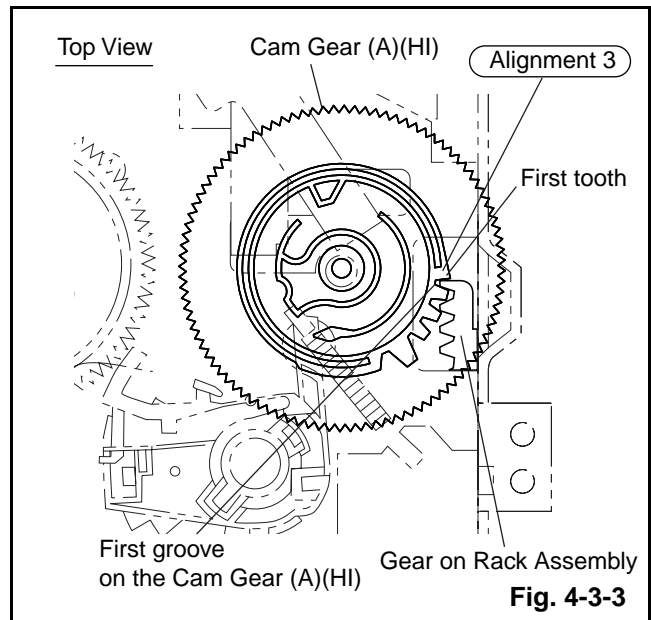

Fig. 4-3-3
Install the Rack Assembly so that the first tooth on the gear of the Rack Assembly meets the first groove on the Cam Gear (A)(HI) as shown in Fig. 4-3-3.